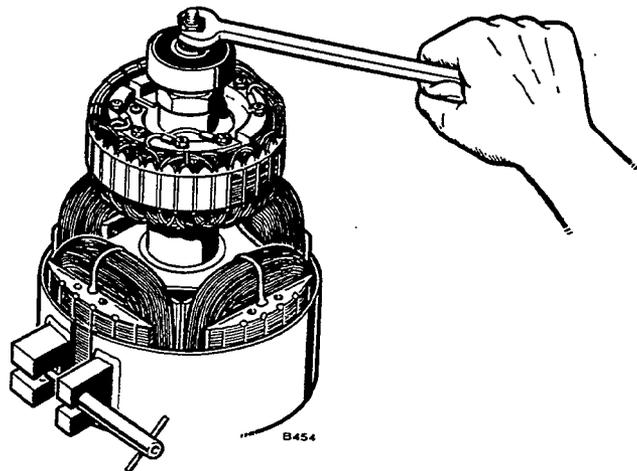

FIGURE 64. ROTOR THROUGH-STUD NUT REMOVAL
11. Hold rotor in a suitable clamp and loosen nut on rotor-through-stud bolt as shown in Figure 64.